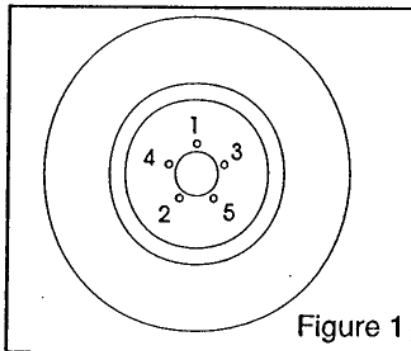

Figure 1
1. Always use tightening sequence when applying torque to wheel nuts. (Figure 1)